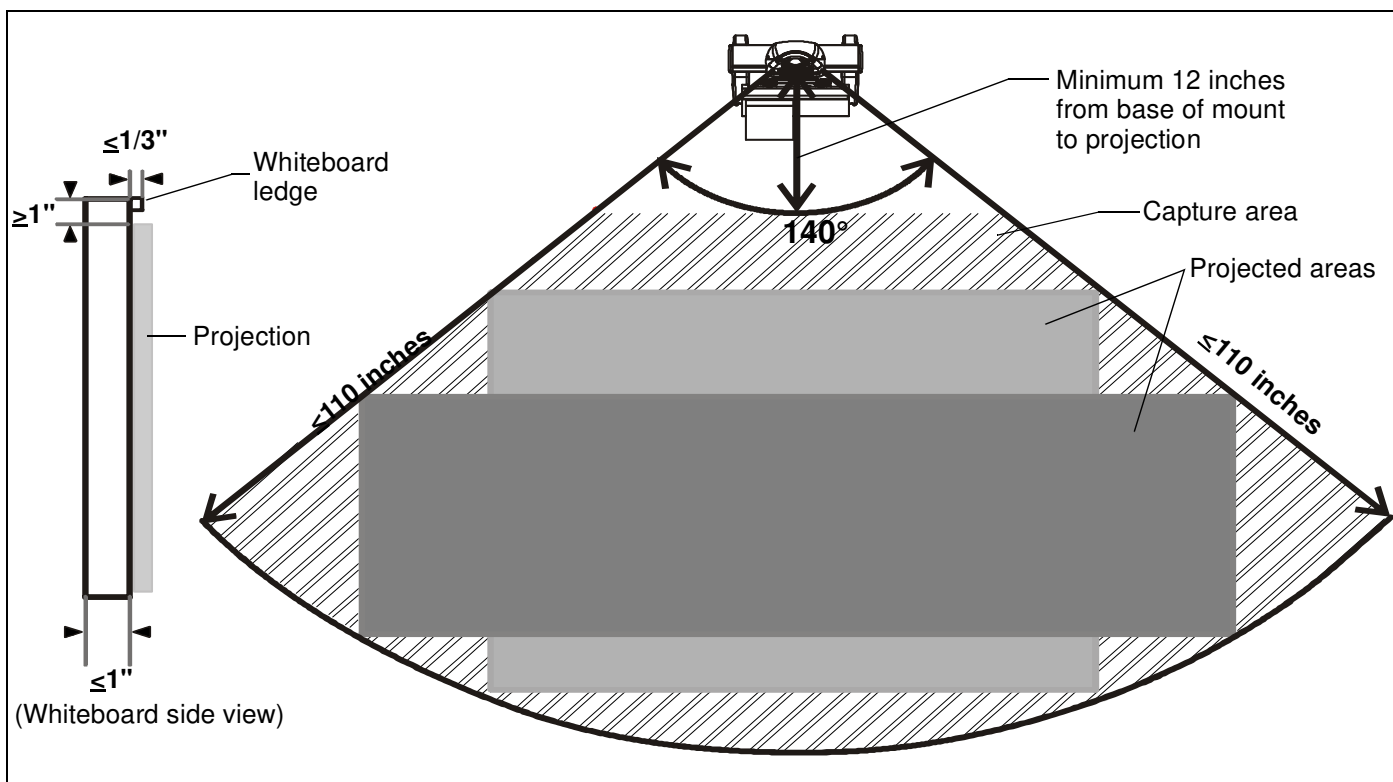

Figure 3
### WM2XXSI/WM2XXAUSI Placement and Projection Area Constraints (See Figure 3)
- The whiteboard should not be thicker than 1". (See Figure 3)
- The ledge of the whiteboard frame should be less than or equal to 1/3". (See Figure 3)
- Do not put sticky notes, hanging paper, cables, outlets, or other items below the wall mount or inside the capture area. (See Figure 3)